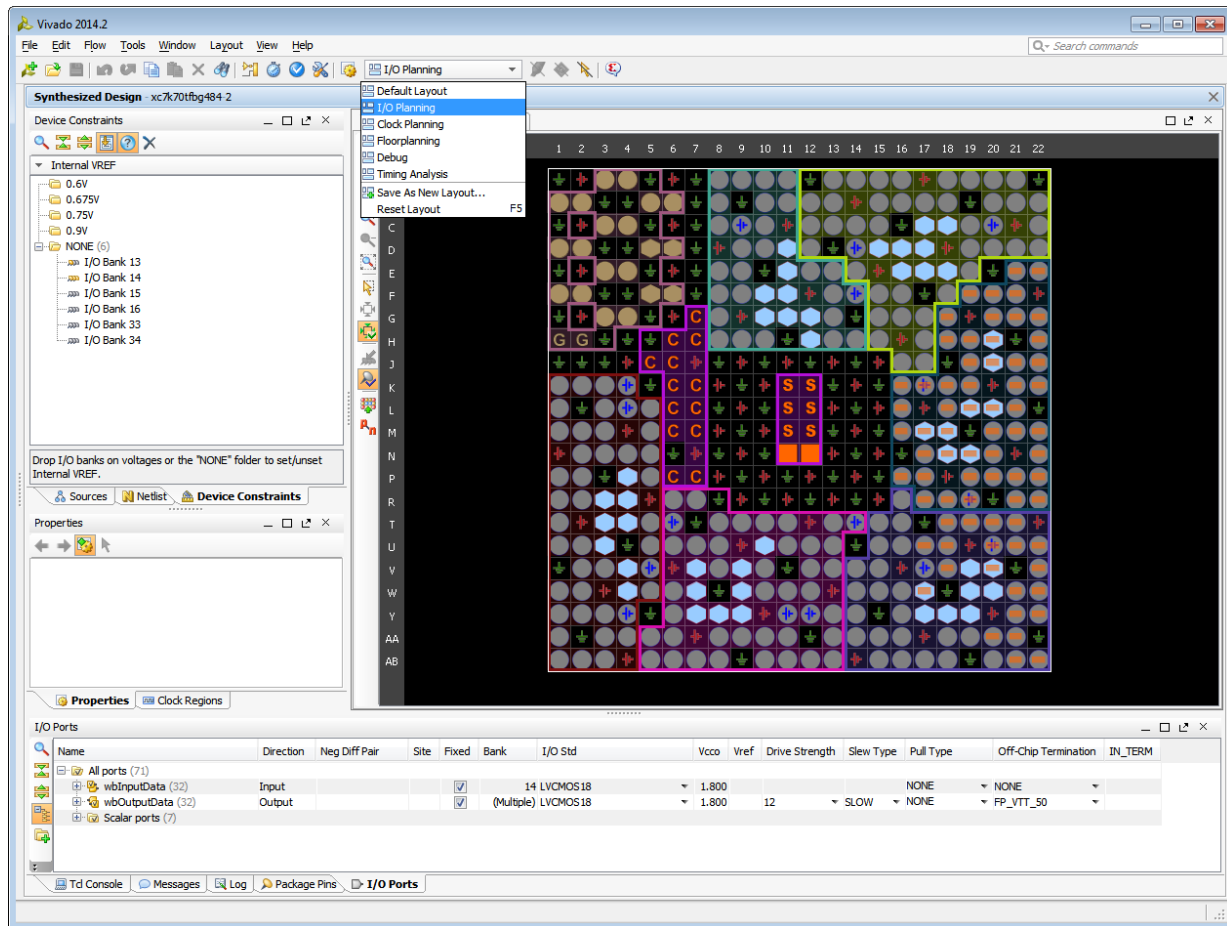

Figure 6: Open I/O Planning View Layout
1. Open the I/O Planning view layout by selecting **I/O Planning** from the Layout Selector pull down, as shown in Figure 6.